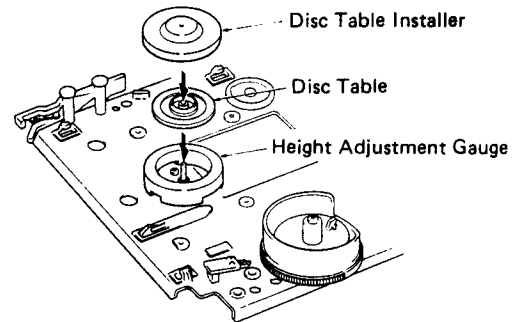

Fig. 8
- c. Install turntable onto motor shaft with disc table installer as shown in Fig. 8.